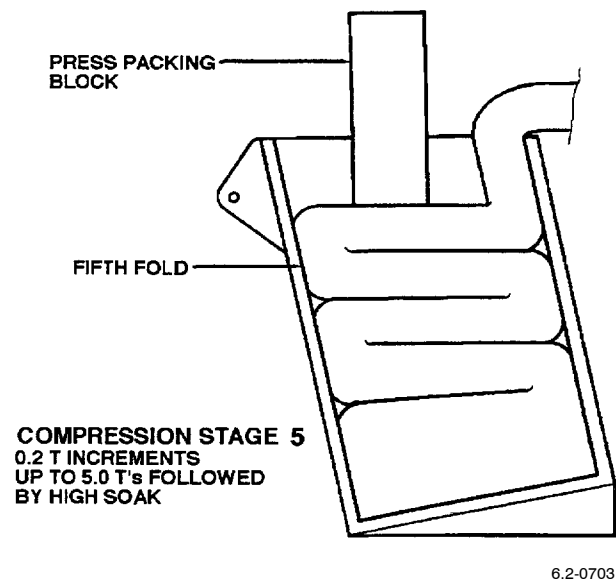

Figure 53. Compressing Deployment Sleeve - Stage 5
(1) Both indicator lights extinguish.
(2) Both displays; LOAD SET value extinguished; LOAD indicates load still applied.
a. Fold the deployment sleeve to the front, crease the sleeve at the front and tuck well down into the container. Push the sleeve well down and ensure that the fold at the rear abuts the rear face of the container (Figure 53).
b. Locate the long packing block (MBEU149010) into the container slightly aft of center, and align the block and packing box, and using the footpedal, raise the press table until the packing block is in contact with the sleeve in the container (Figure 53).